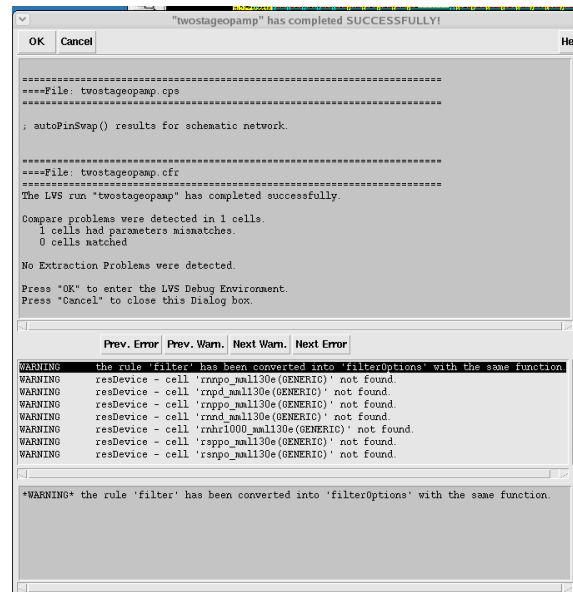

Figure 15: View of a successful LVS comparison message.
4. If the netlists match (see Fig 15), and no DRC errors are found, create the **extracted** view: Directly after the LVS (do not close the Assura Run) select *Assura > Run RCX* In the RCX window, choose the following: